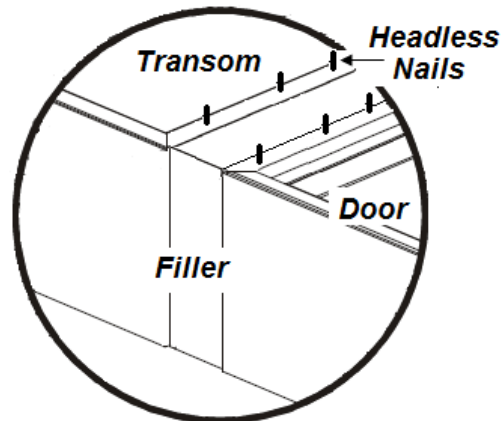

Figure 6
- Using the headless nails provided, nail the nails $\frac{3}{8}$ inch from the line drawn on the door jamb and transom (both top and bottom of the mull cap, where the mull cap was fitted). When nailing the nails leave then exposed $\frac{1}{2}$ inch to $\frac{3}{4}$ from surface. Place the nails 6 to 8 inches apart. Figure 6